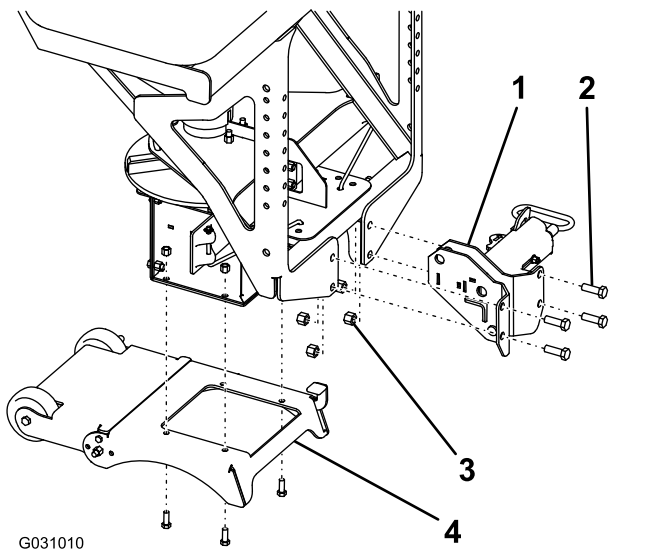

Figure 9
- Mount the RT3 attachment to the spreader using 4 bolts (1/2 inch) and locknuts (1/2 inch) and torque the bolts to 76 Nm (56 ft-lb) as shown in Figure 9.
- Mount the leg assembly to the spreader using the 4 existing bolts (3/8 inch) and locknuts (3/8 inch) and torque the bolts to 27 Nm (19.7 ft-lb) as shown in Figure 9.